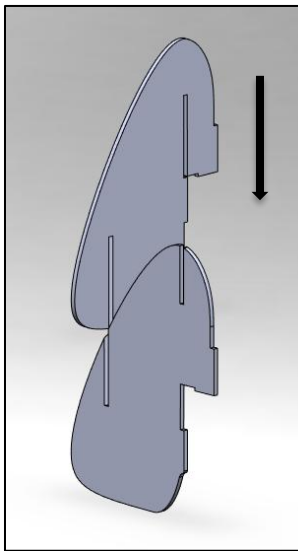
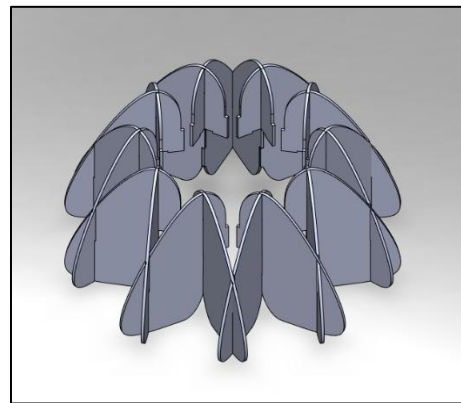

FIG. 10 – ACOUSTIC PANEL ALIGNMENT
FIG. 11– SUPPORT RING/ACOUSTIC PANEL CONNECTION
1. Take the two different acoustic panel shapes and slide them together until they are fully aligned (as shown in Fig. 10). Make sure the bottoms of the panels are securely interlocked. Once all the panels are properly connected, group them into pairs and connect the back ends until all ten pairs are joined, forming a complete circle (as shown below in FIG. 11).